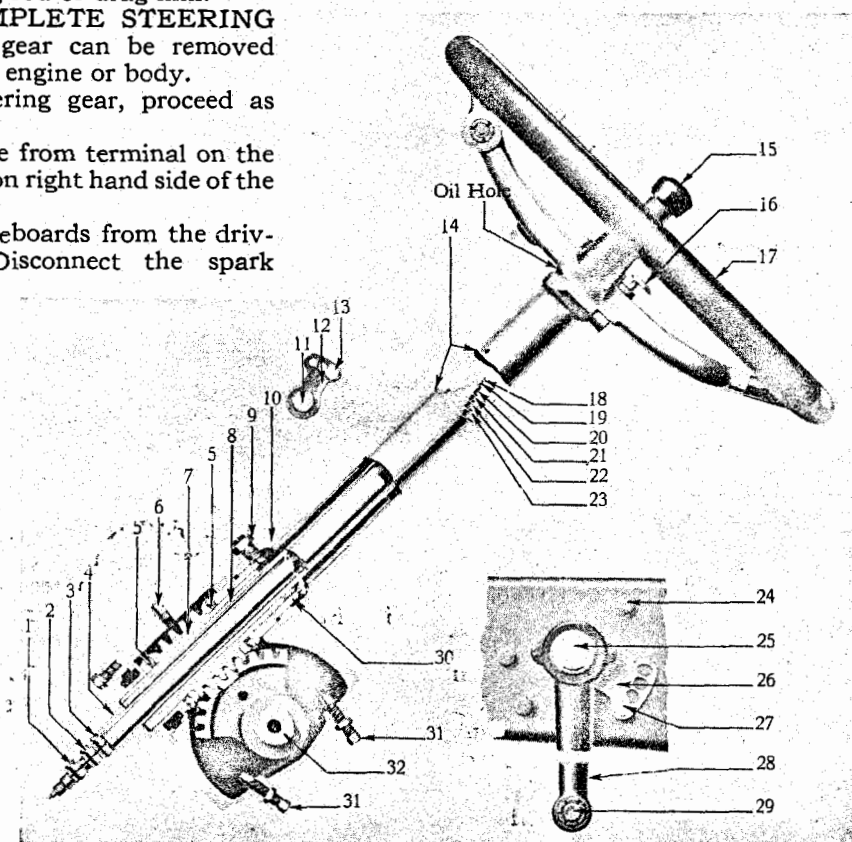

Fig. 72
Remove the screw (25) Fig. 72 and pull off the steering arm (28).
Make sure that the steering wheel and front wheels are properly positioned, relatively, before securing arm (28) on the sector shaft (32) **LUBRICATION OF STEERING GEAR**—The internal mechanism of the steering gear may be lubricated at (6) Fig. 72, with the lubricator gun provided in the tool kit. Use gear lubricant. NEVER use cup grease. An oil hole will be found under lever arm at back side under steering wheel (see Fig. 72), also oil all joints at top of steering column.
ADJUSTMENTS, INCIDENTAL TO WHEEL ALIGNMENT—At (31) Fig. 72 are two stop screws. These screws act as stops for the sector in the housing. They are properly adjusted when the car leaves the factory and will need attention only in case of re-